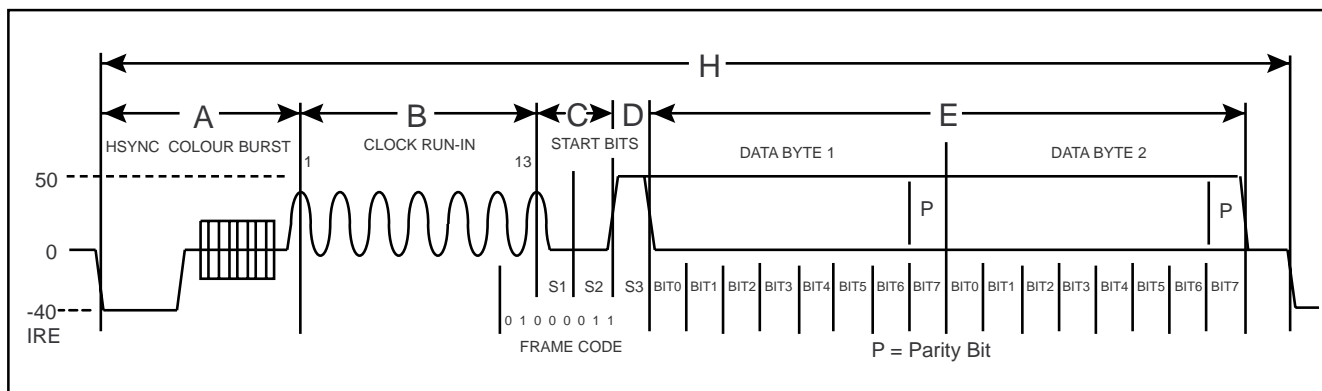

Fig.7 Closed Caption format
Two bytes of data are coded on the line 21 of each field, see figure 7. In the NTSC Closed Caption service, the default state is to code on line 21 of field one only. An additional service can also be provided using line 21 (284) of the second field. The data is coded as NRZ with odd parity, after a clock run-in and framing code. The clock run-in frequency = 0.5034965MHz which is related to the nominal line period, D = H / 32.